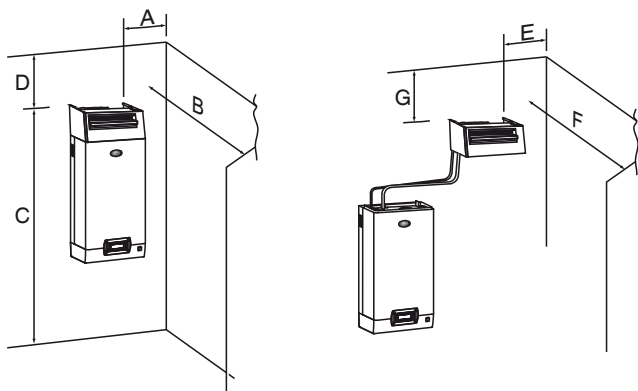

Fig. 3.c
2. the L-shaped supports (see element 1 Fig. 3. b) is supplied with steam distributors models from DP085* to DP025*. For shorter lengths the bracket can be supplied as optional (code 18C478A088).
Steam distributors for humidifiers up to 18 kg/h (39.7 lb/h). They can be connected onto the humidifier or in a remote position (see fig. 3 c.) These distributors have a power supply inside the electrical panel (24 Vac, Terminals X1, X2).